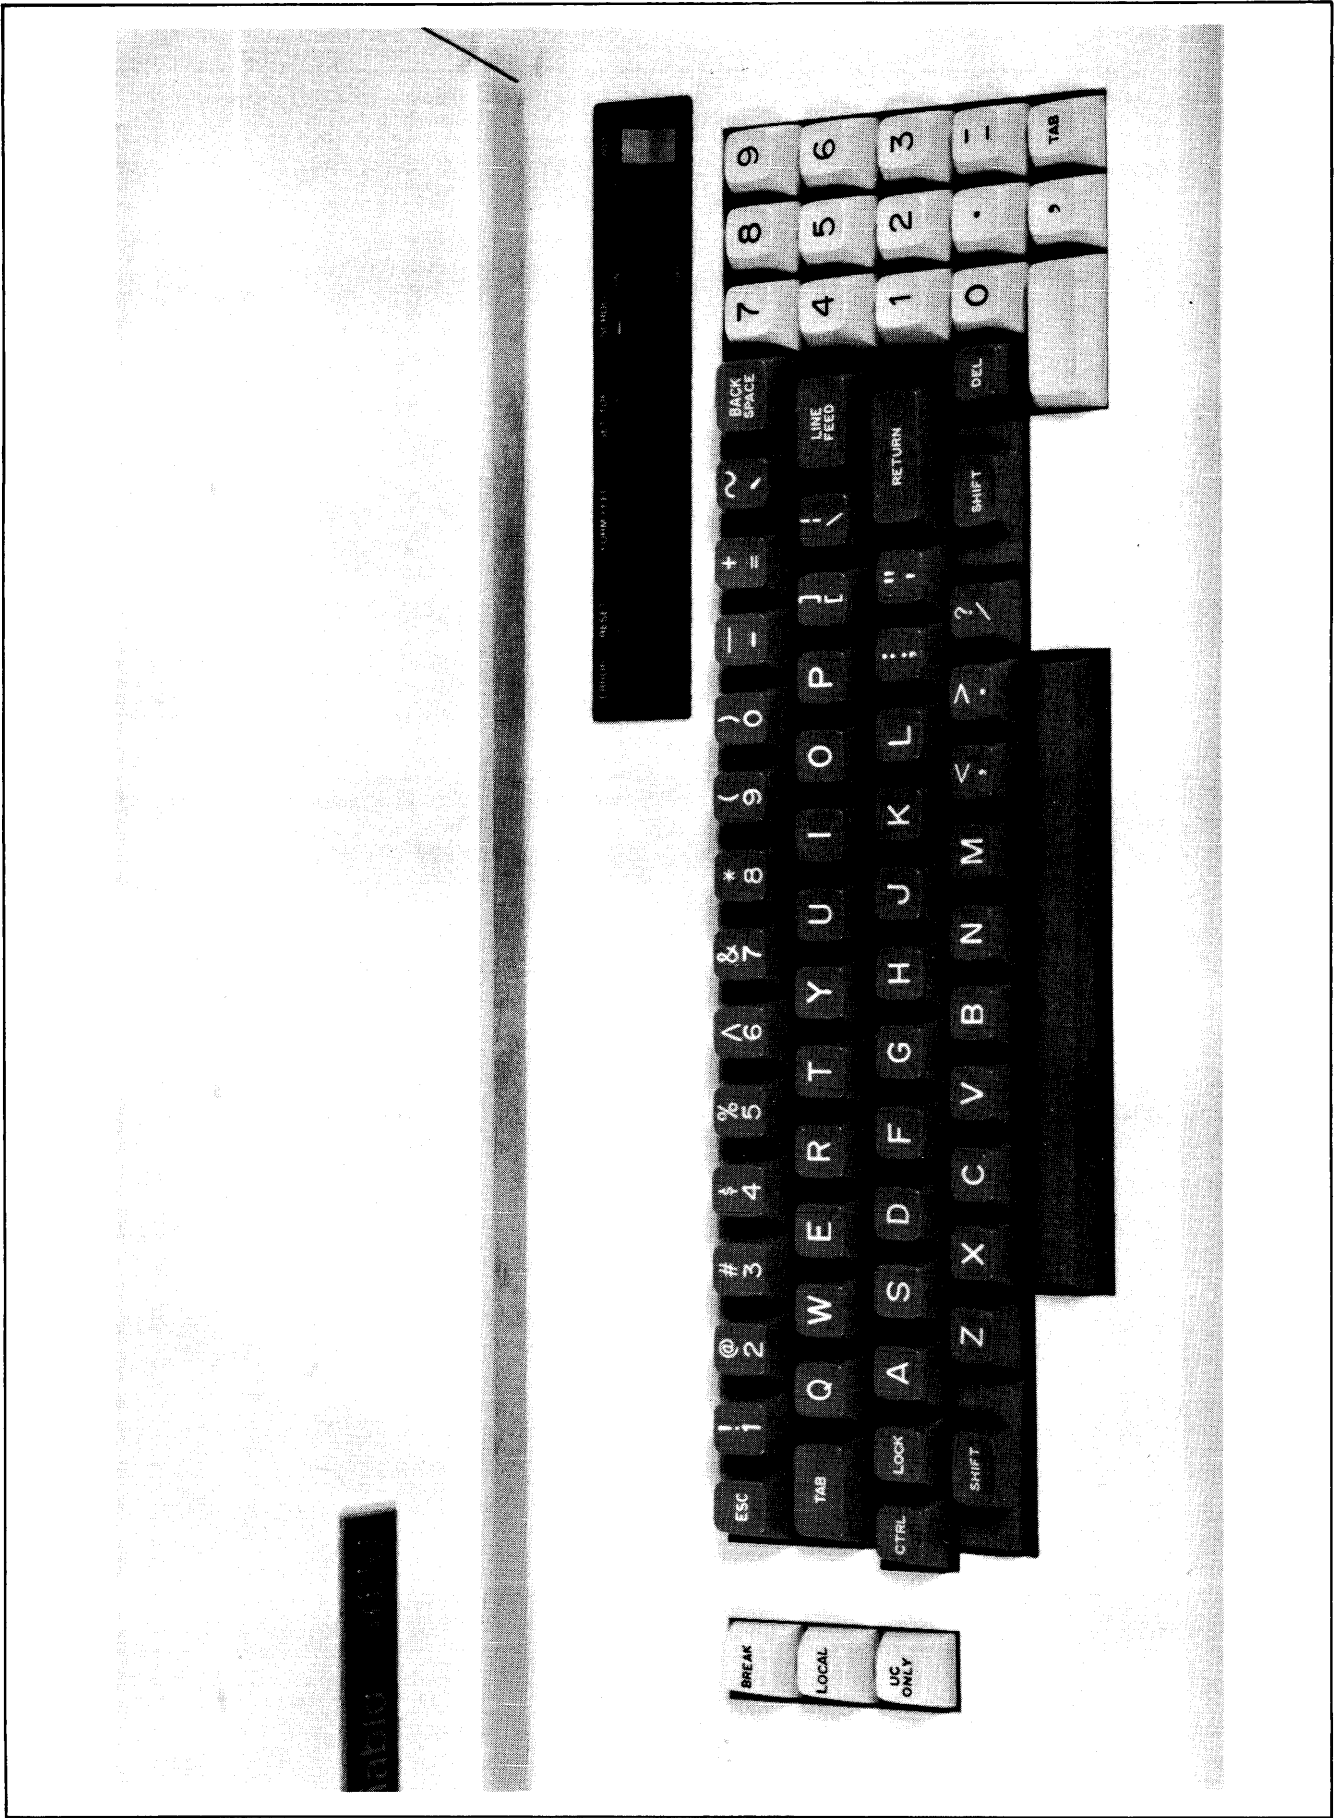

Figure 2-4. 46-Key Typewriter Pairing Keyboard
Several different types of keyboards are available to meet many different customer requirements. This section explains a typical keyboard (Figure 2-4), and the information contained here can be transferred to other keyboards with little difficulty.
2.2.3.1.1 Control Mode. In addition to the “unshifted” and “shifted” modes of operation, a third keyboard mode, called “control” mode, is available. This mode is used to generate special control characters, such as RS, US, VT, etc. These control characters are used to perform special functions such as vertical tab, absolute horizontal tab, etc. Control mode is in effect whenever the CTRL key is held down: to generate a code in control mode, depress and hold down the CTRL key and then depress and release another key in the alphameric section. For example, to generate a Vertical Tab (VT) code on the keyboard shown in Figure 2-4, hold CTRL down and operate the “K” key once. Should both the SHIFT (or LOCK) and CTRL keys be depressed at the same time, the CTRL key will override, and the control mode will prevail.
2.2.3.1.3 Special Keys. On some keyboards, certain keys provide special functions. One of these already covered is the CTRL key. There are three others on the keyboard in Figure 2-4 worthy of special mention. These are the ESC key in the upper left, the LINE FEED key, on the right, and the DEL key, in the lower right.